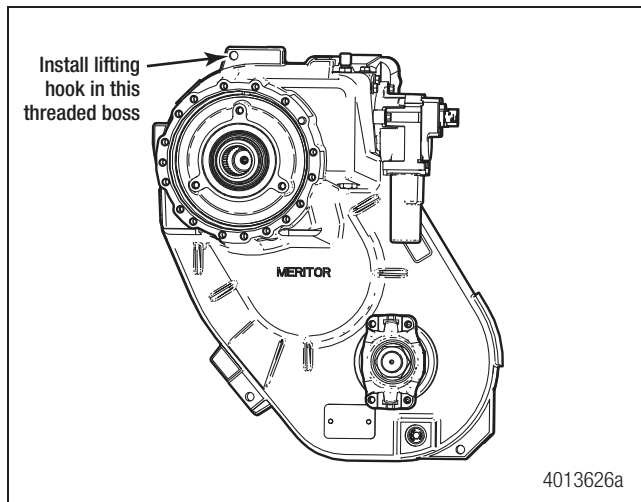

Figure 3.3
16. Install a single 3/8-16 UNC lifting hook in the threaded boss on top of the transfer case. Figure 3.3.